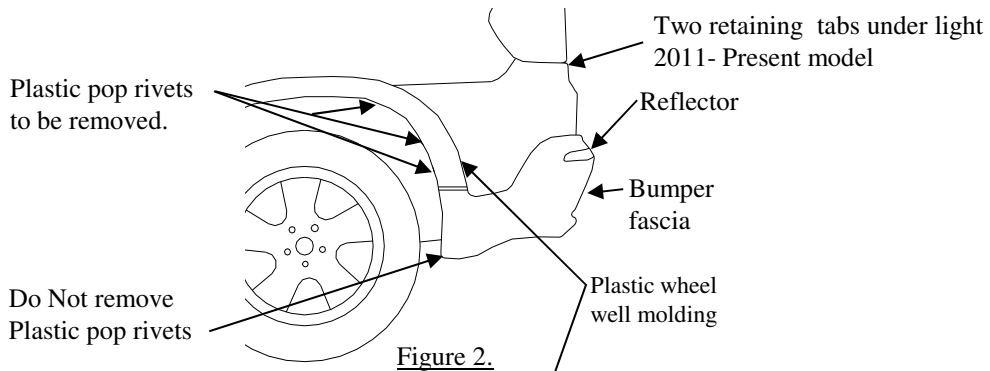

Figure 2.
①	Qty. (6)	Plastic rivet (Not shown)
- a. Remove 2 (3\*) plastic pop rivets (each side) from the plastic wheel well molding (See Figure 2). Rivets can not be re-used. Replacements supplied. To remove rivet, insert small center punch or drill bit into center to push pin through.
- d. Remove reflectors, (Reflector can be removed by releasing the clip that holds it in place, access under the bumper) (Figure 2).